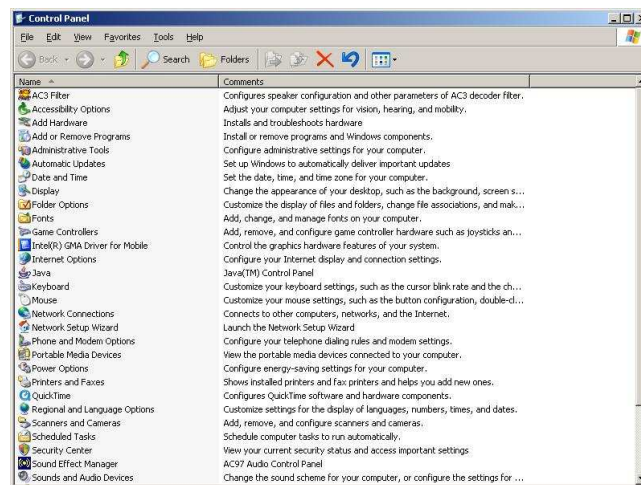

Figure 21: Control Panel
2. Double click on Control Panel, obtaining a screen like figure 21.